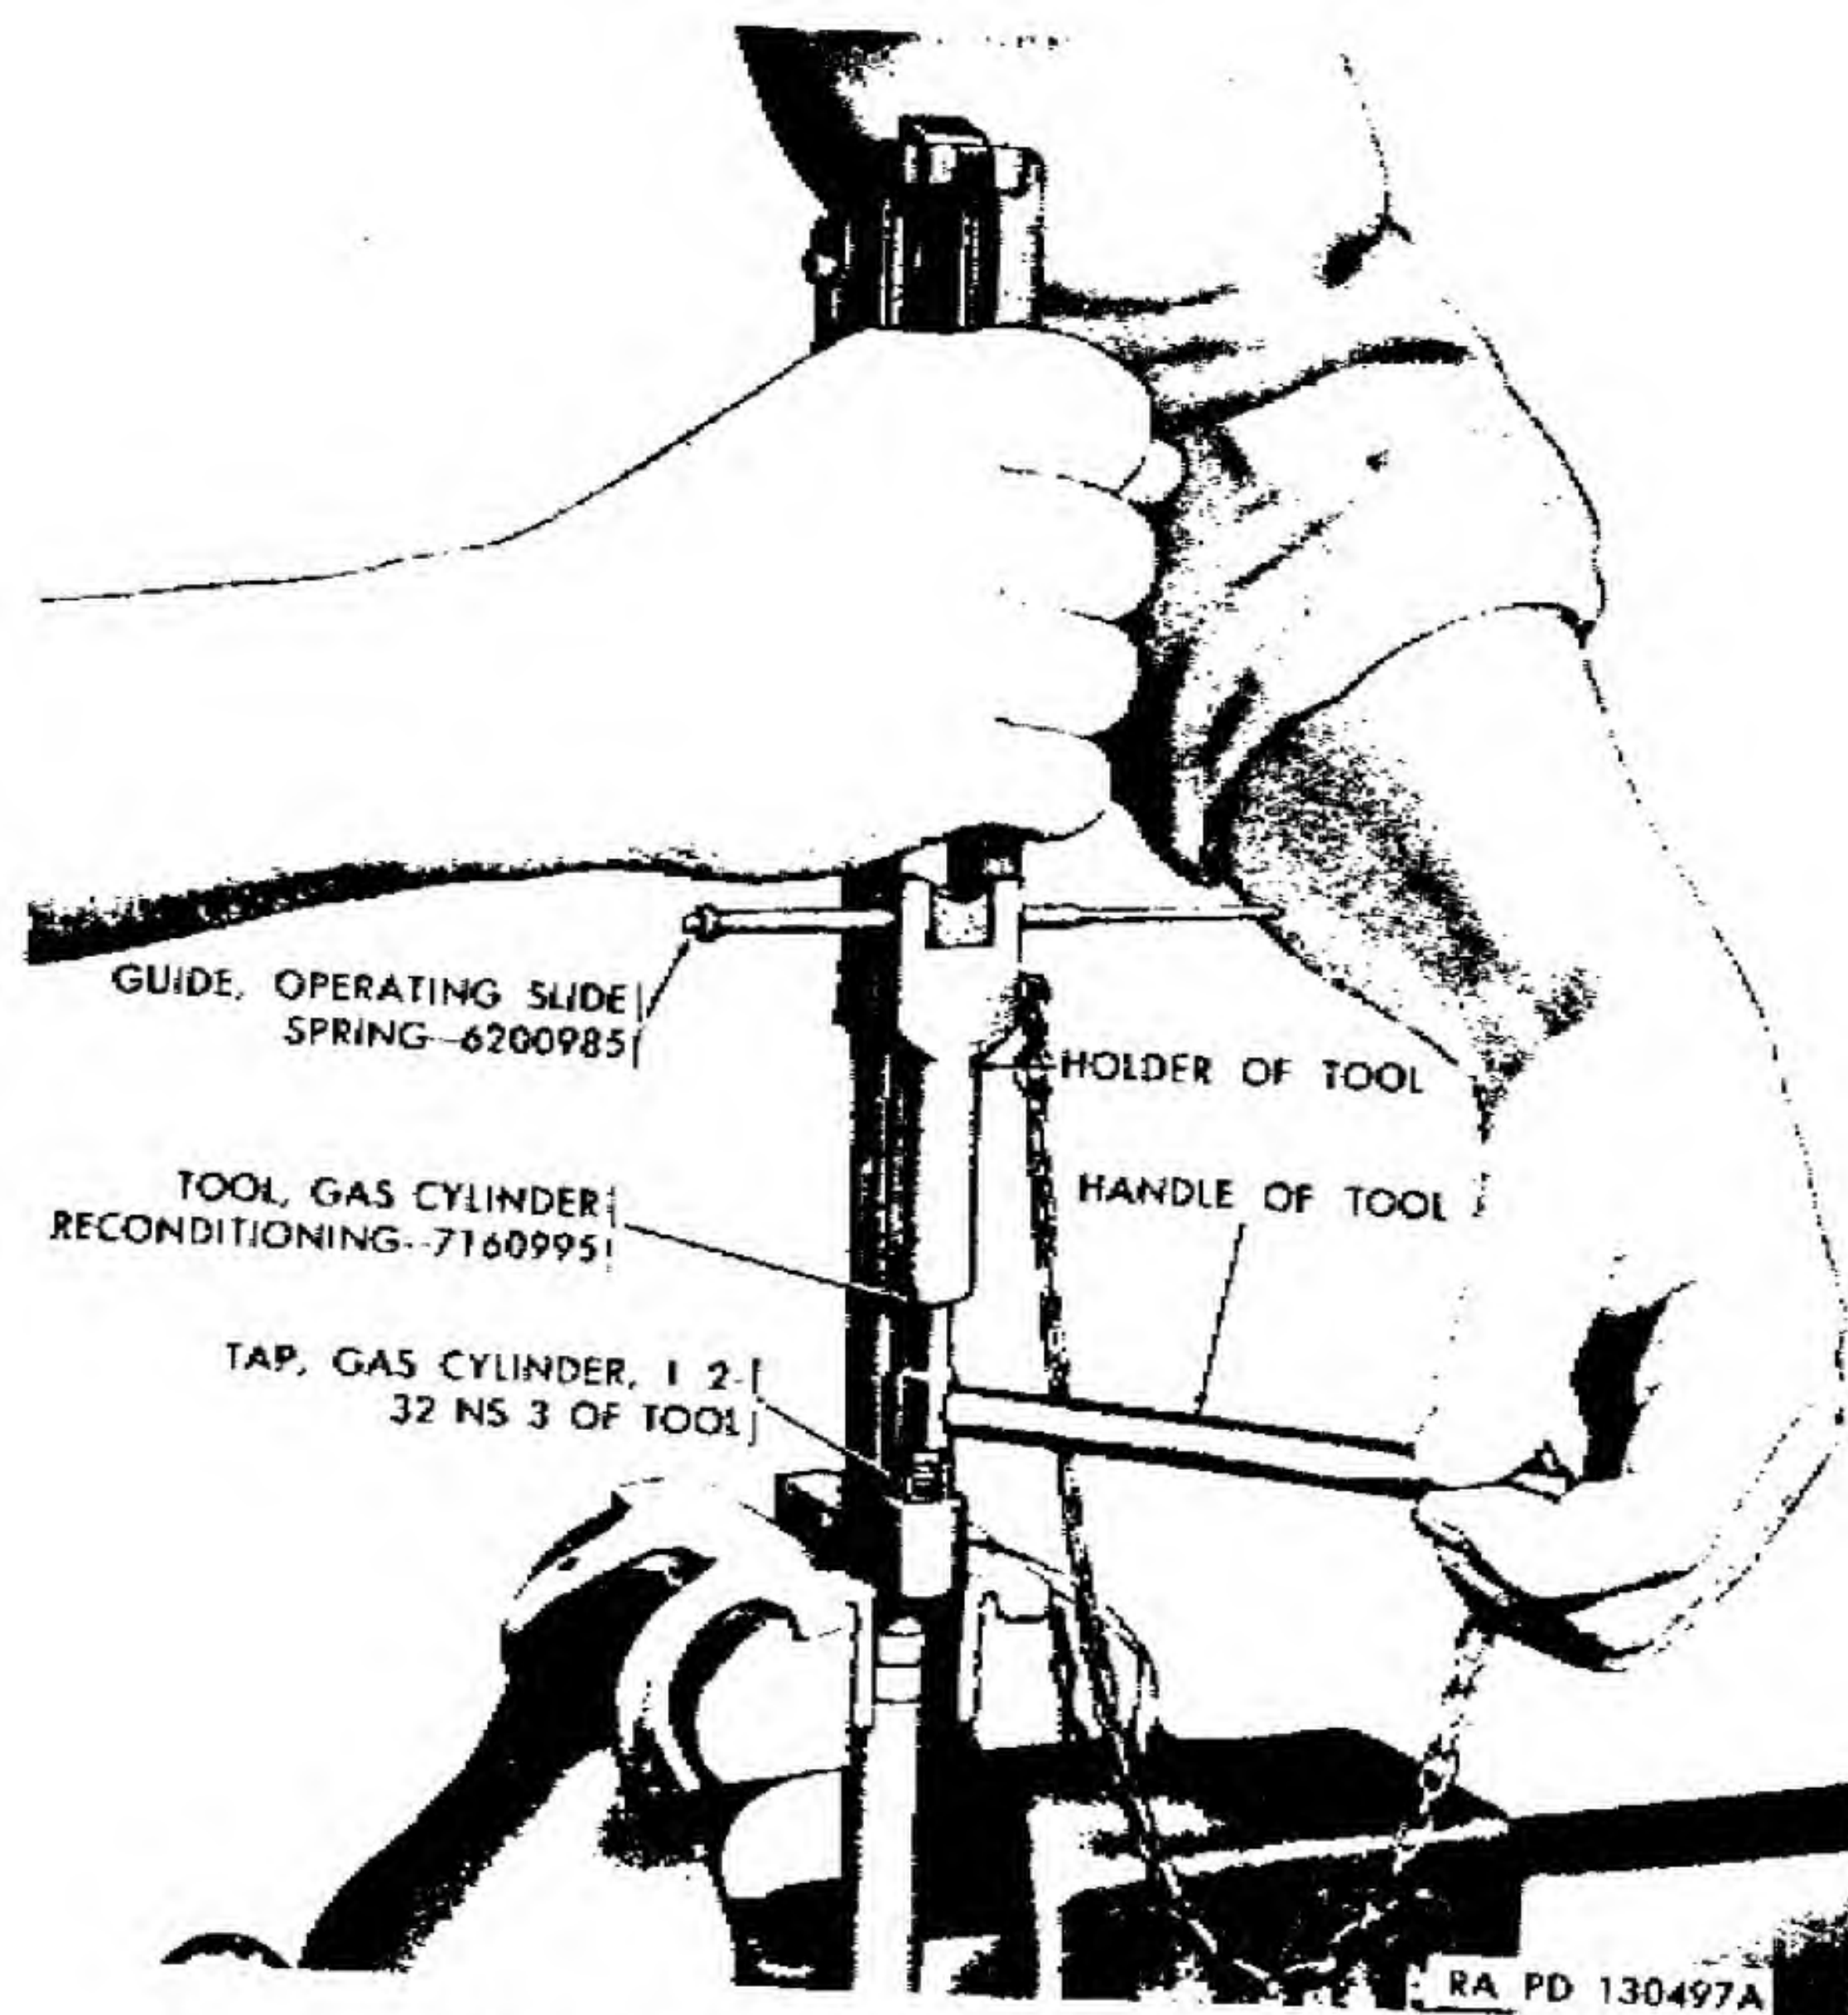

Figure 84. Chasing gas cylinder thread.
*a. Chasing Gas Cylinder Thread.* Chase threads of the gas cylinder, using gas cylinder tap member of tool 7160995 (fig. 84). Dip tap in a cutting oil and start tap carefully in gas cylinder. Cut threads a little at a time, using a forward and backward movement. Exercise care to stop tap as soon as it touches bottom to prevent damaging tap or cylinder. Remove tap and thoroughly clean chamber.
- (1) *Carbon.* Because of the rearward position of the gas port and high gas pressure encountered there, excessive carbonization of cylinder and piston is unlikely. However, these parts should be cleaned at regular intervals, or when fouling or sticking of piston is evident; the gas port in the barrel should be inspected and cleaned if necessary. Remove piston nut and piston from gas cylinder and scrape excess carbon off with flat blade. Take care not to scratch parts unnecessarily. When carbon has been removed, clean inside of cylinder and piston, oil very lightly and replace. Clean gas port with an 0.070-inch or smaller drill inserted by hand, or with piece of wire or similar instrument. Be sure to stake piston nut lightly in place when assembling.
- (2) *Rust.* Rust is more likely to form on surfaces not regularly lubricated, or where barrel heat dissipates oil film rapidly. Such points are under side of barrel, body of oiler beneath sling, receiver locking lug recess in recoil plate, operating
b. *Gas Cylinder Piston and Nut.* Insert gas cylinder piston into cylinder and screw cylinder piston nut into the threads using gas cylinder reconditioning tool 7160995 (fig. 84) (with component wrench). Make certain to stake the cylinder lightly into the nut, in one of the three places provided, or the nut may work loose during the firing of the carbine. After the piston and nut are assembled in the gas cylinder, check to assure that there is no binding (par. 57c).